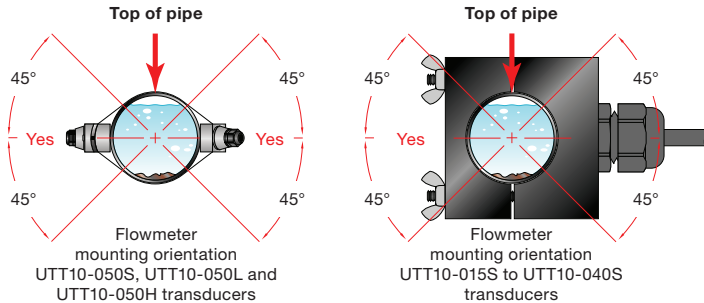

Fig. 8 Transducer orientation — Horizontal pipes
The UTT10-050S, UTT10-050L and UTT10-050H transducers must be properly oriented and spaced on the pipe to provide optimum reliability and performance. On horizontal pipes, when Z-mount is required, the transducers should be mounted 180° from one another and at least 45° from the top-dead-center and bottom-dead-center of the pipe. See *Fig. 8*. Also see *"Mounting transducers in Z-mount configuration" on page 28*. On vertical pipes the orientation is not critical.
UTT10-015S to UTT10-040S transducers should be mounted with the cable exiting within $\pm 45^\circ$ of the side of a horizontal pipe. See *Fig. 8*. On vertical pipes the orientation does not apply.
- 2) On horizontal pipes, mount the transducer in an orientation such that the cable exits at $\pm 45^\circ$ from the side of the pipe. Do not mount with the cable exiting on either the top or bottom of the pipe. On vertical pipes the orientation does not matter. See *Fig. 8* on page 22.